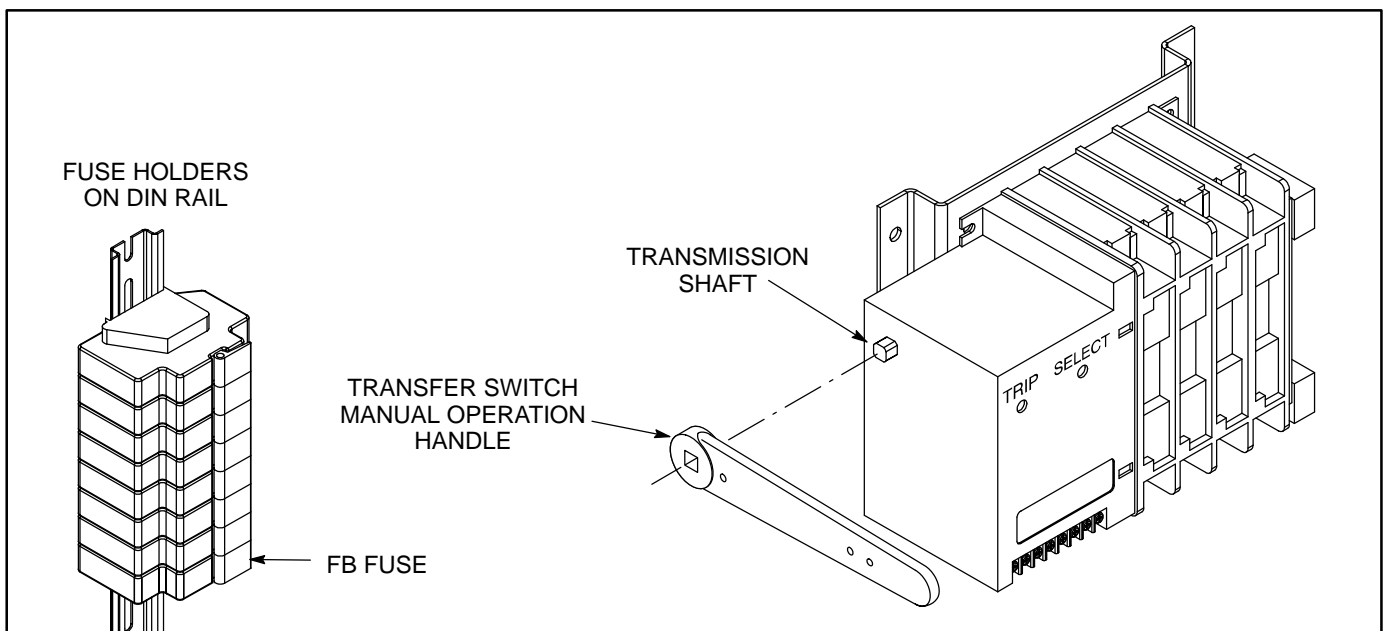

FIGURE 4-1. MANUAL OPERATION HANDLE
The transfer switch has an operator handle for manually transferring the load (see Figure 4-1). Manual operation must be performed by qualified personnel under **NO-LOAD CONDITIONS ONLY**. Use the following procedure:
3. Remove power to the control by removing the FB fuse (see Figure 4-1).